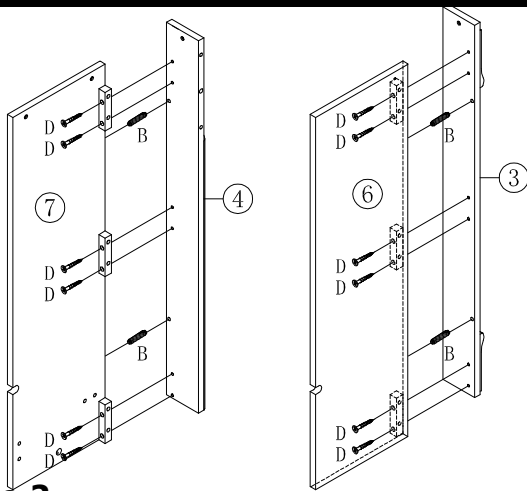

Figure 2
INSERT 4PCS WOOD DOWELS (B) INTO PREDRILLED HOLES ON LEFT AND RIGHT SIDE PANELS (6& 7) AND FIT INTO CORRESPONDING HOLES ON LEFT AND RIGHT FRONT PANELS (3&4). INSERT 12PCS FLAT HEAD LONG SCREW(D) THROUGH PREDRILLED HOLES ON WOOD BARS ON INSIDE OF LEFT AND RIGHT SIDE PANELS (6.7) AND TIGHTEN INTO CORRESPONDING HOLES ON BACK OF LEFT AND RIGHT FRONT PANELS (3.4). AS FIGURE 2 SHOWN.